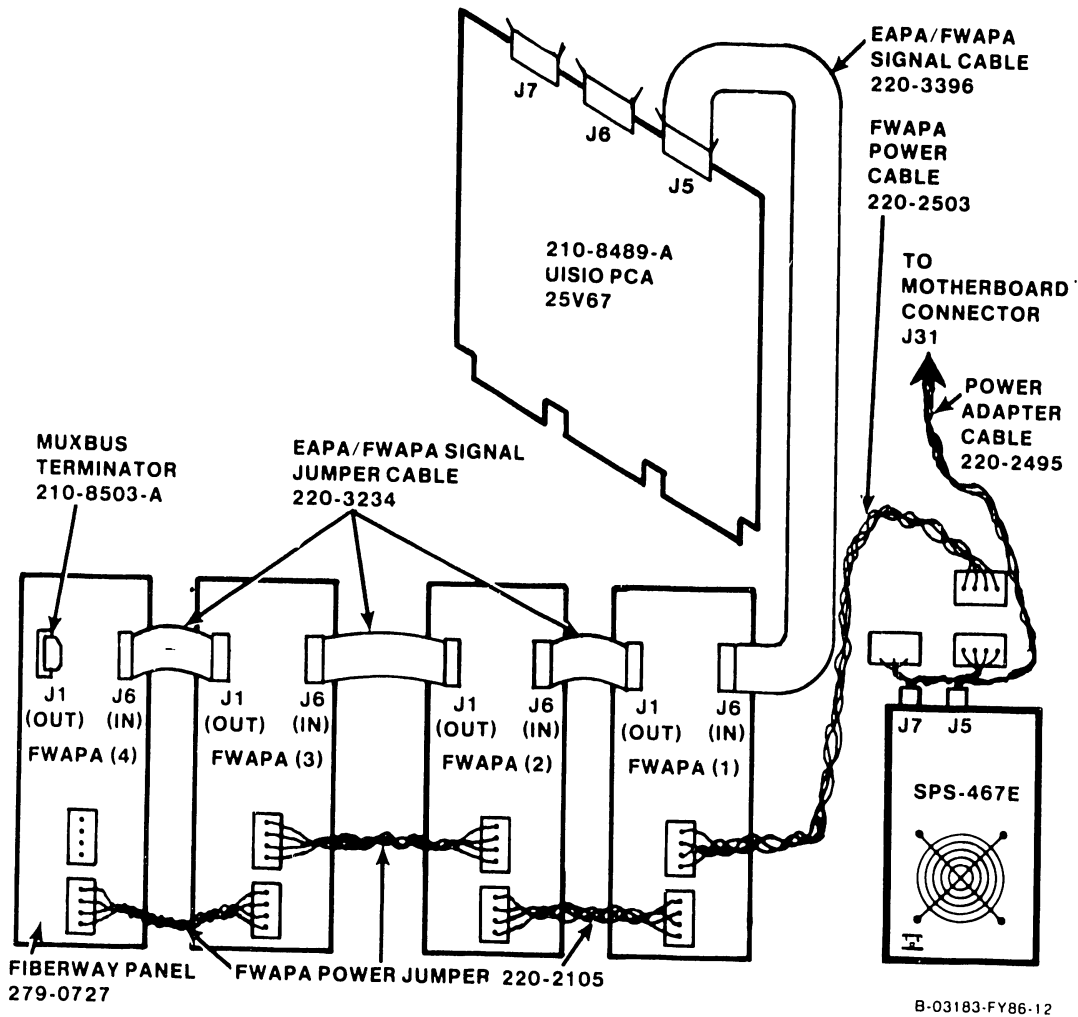

Figure F-9. FWAPA Panels Internal Cabling Diagram
7. Install Power Adapter Cable (P/N 220-2495) as follows (refer to figure F-9):